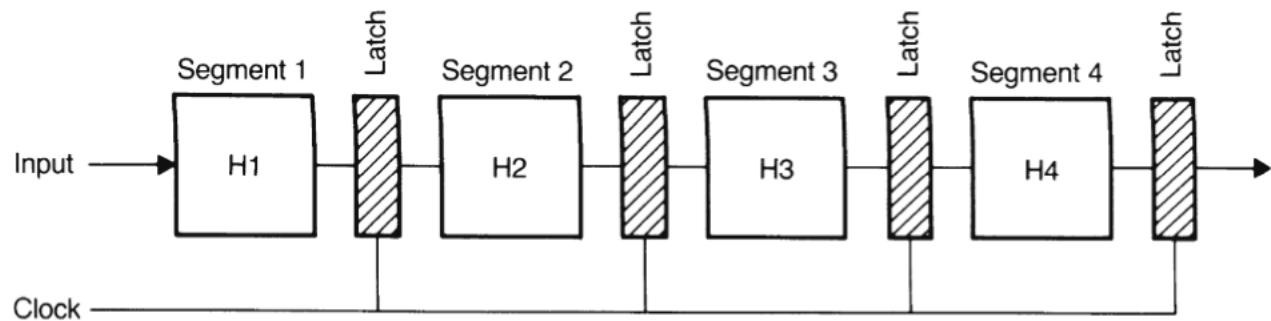

FIGURE 2.16 Four-segment pipeline.
- Consider the arrangement shown in Figure 2.16. In this configuration, a latch is placed between two segments so the result computed by one segment can serve as an input to the following segment during the next clock period.